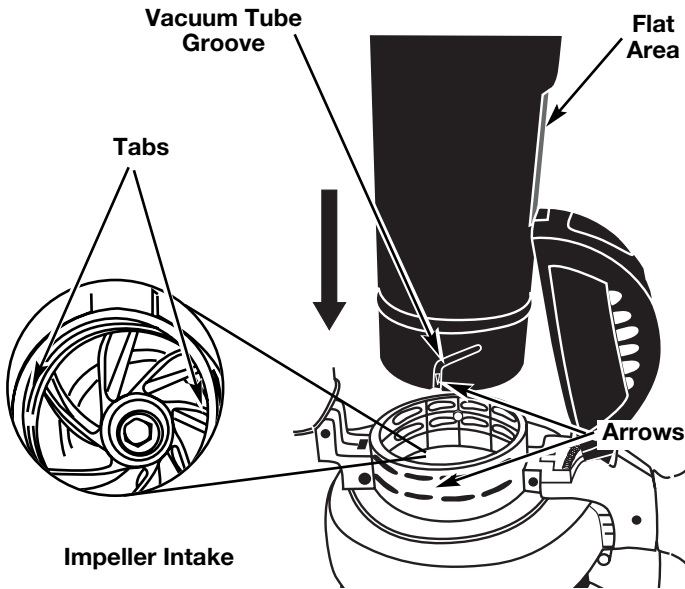

Fig. 4
- While holding the vacuum door open, insert the assembled vacuum tube (put together in Step 2). Arrange the tube so the flat area faces the vacuum door. The grooves on the side of the tube will line up with the small tabs in the impeller intake (Fig. 4). From the exterior, align the small arrow on the vacuum tube with the arrow on the impeller intake.